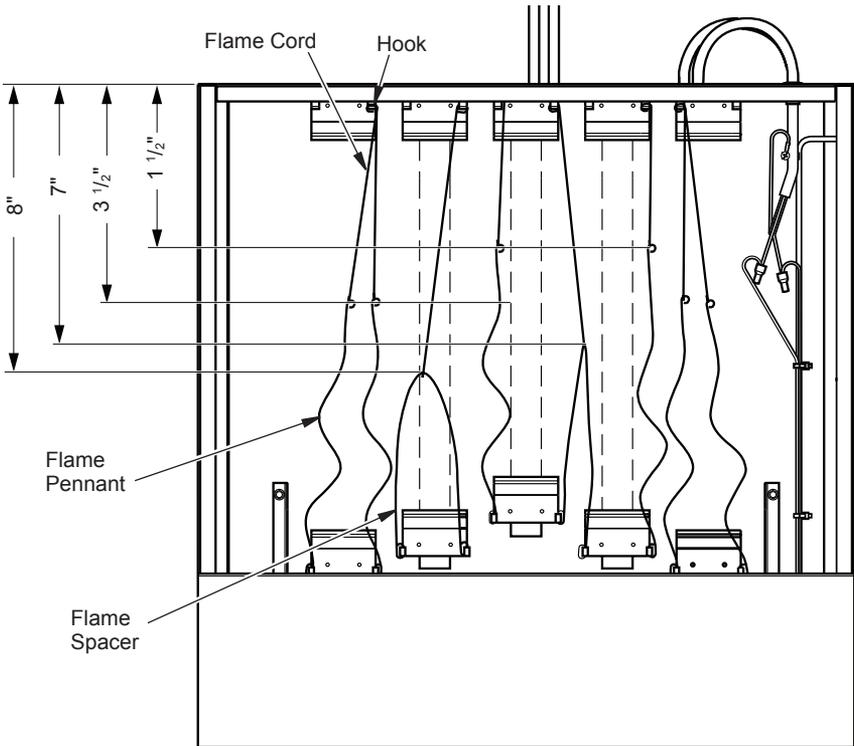

Figure 36 - Locating Flame Pennants
1. Locate affected flame pennant. Slip hem at base of flame pennant over proper hanger bracket position. See Figure 36, page 20, for proper location.